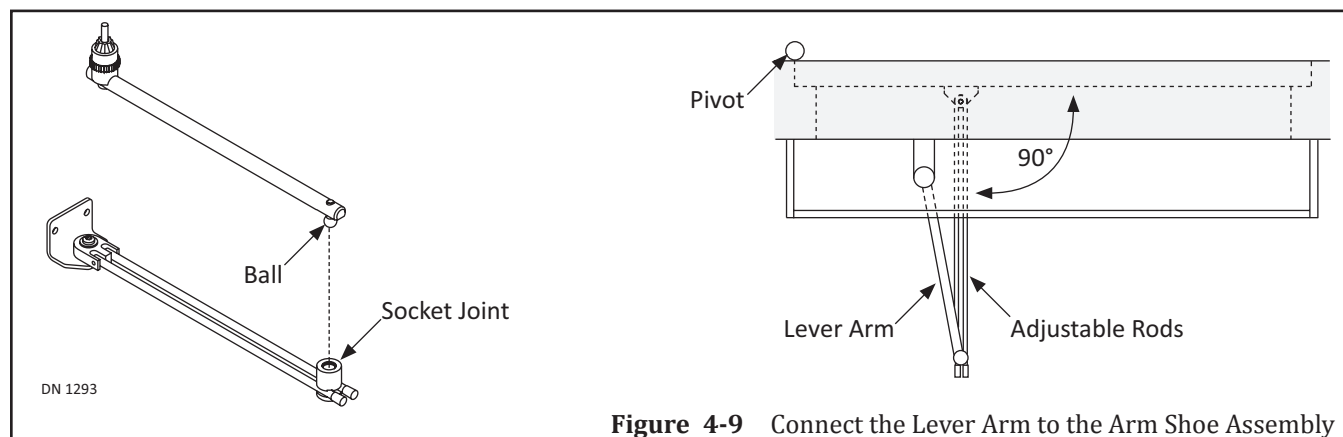

Figure 4-9 Connect the Lever Arm to the Arm Shoe Assembly
2. Connect the Ball into the Socket Joint. Please see Figure 4-9.